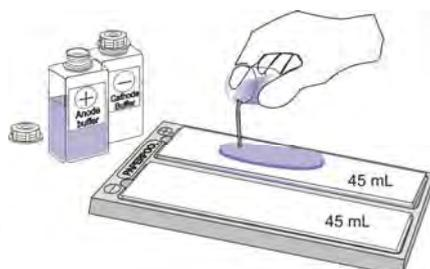

Fig. 3.1
2. Lay two electrode wicks into the compartments of the Paper-Pool. Add 45 ml of the respective electrode buffer to each wick, distribute the solution evenly with a roller, and allow to soak for at least 10 minutes (Fig 3.1).